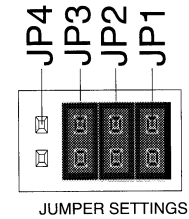

Figure 1
3. Using a pair of needlenose pliers, carefully install a jumper at location JP1 (refer to Figure 1).